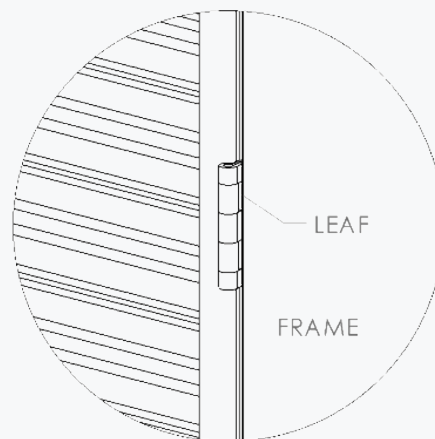

figure 3
- ✦ Align the front edge of the free leaf of the top hinge with the front of the frame. **See Figure 3.**
- ✦ Install (1) screw into the center hole of the top hinge.
- ✦ Install (1) screw into the center hole of the bottom hinge